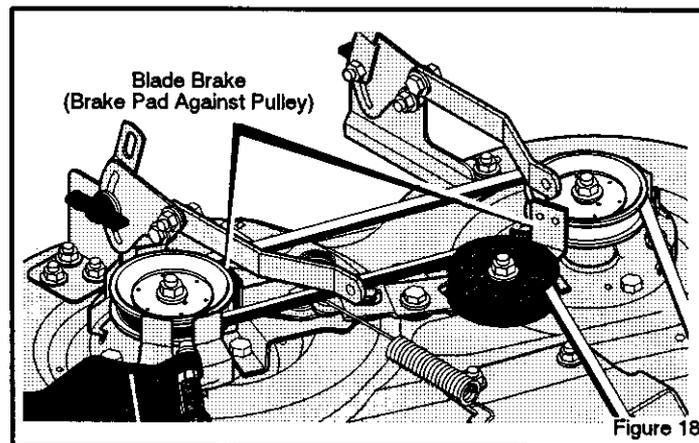

Figure 18
8. Move the **blade rotation control** to the **DISENGAGE** position. Stop the engine. Disconnect the wire from the spark plug. Check the operation of the **blade brake**. Rotate the pulleys with your hand. Make sure the **brake pads** are pressed tightly against the pulleys (Figure 18).